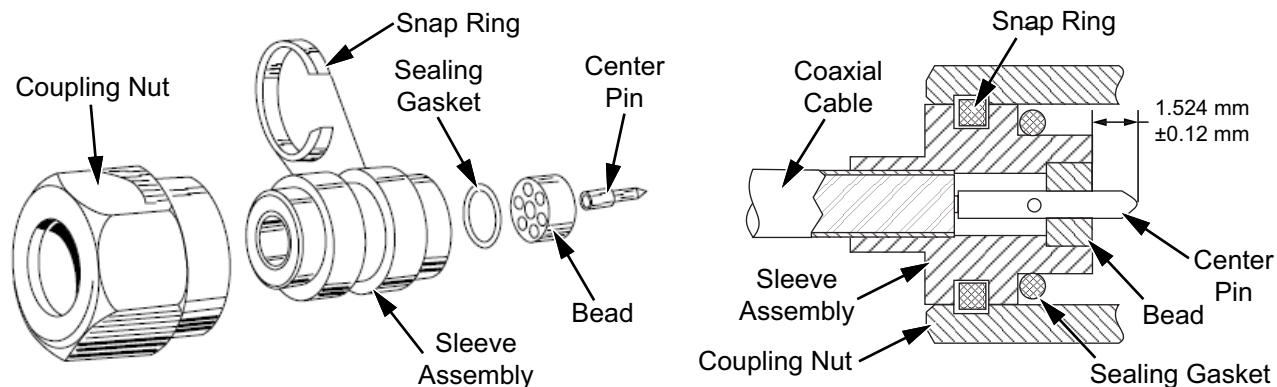

Figure 3-1. K101M-085-R or EK101M-085-R Assembly
Fabrication instructions for the cable assembly are given below. Refer to Figure 3-1 to identify the connector parts referenced in the procedure.
11. Slide the sleeve assembly onto the cable until it reaches the bottom limit of the sleeve. When properly positioned, the center pin will protrude as shown in Figure 3-1, and the sleeve will cover approximately 4.76 mm of the cable. Check pin extension.
- b. That the center pin extends out from the bead as shown in Figure 3-1. For best performance, purge residue solvent by placing the completed cable assembly in an oven and baking at 65 °C for eight hours minimum.